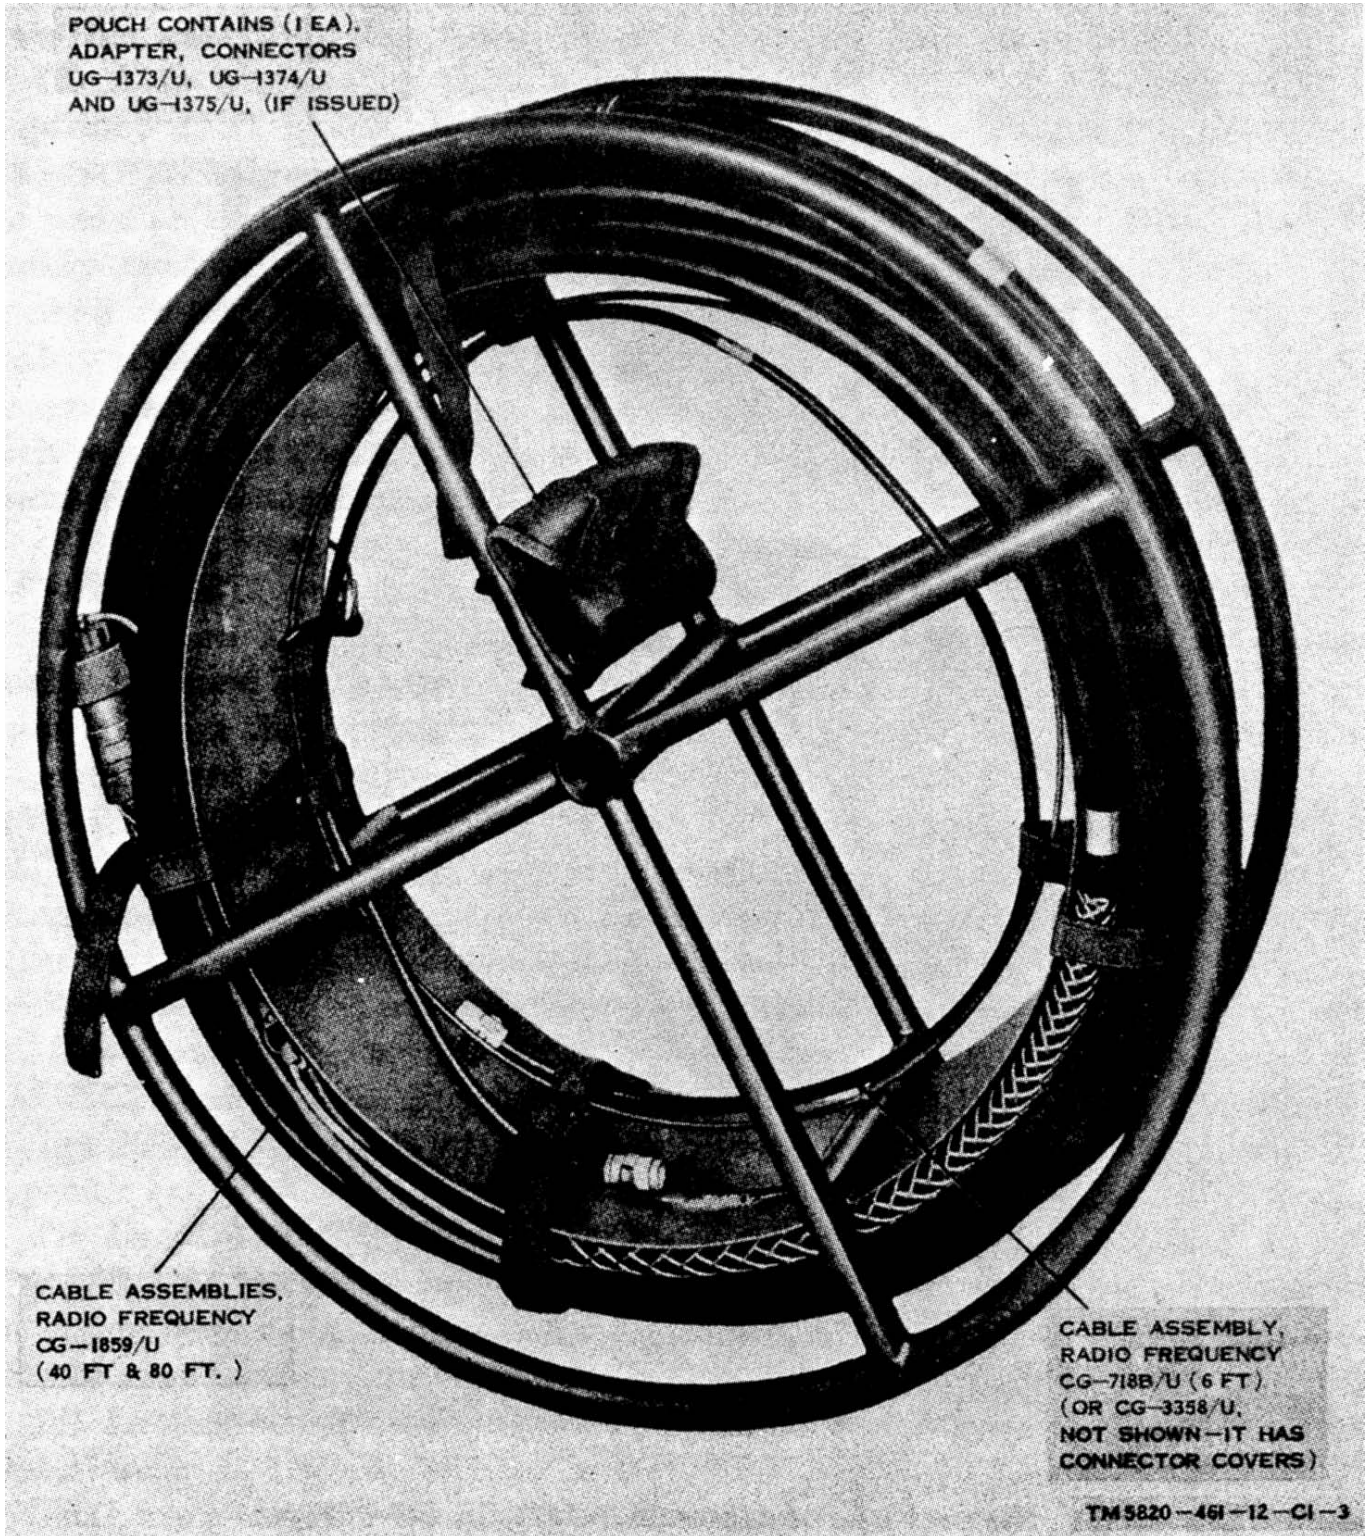

Figure 1-10. Reel, Cable RC-436/GRC, with components mounted on it.
e. Reel, Cable RC - 36/GRC (fig. 1-10) is used to store one Cable Assembly, Radio Frequency CG-1859/U (80 lt); one Cable Assembly, Radio Frequency CG-1859/U ~0 lt); one Cable As